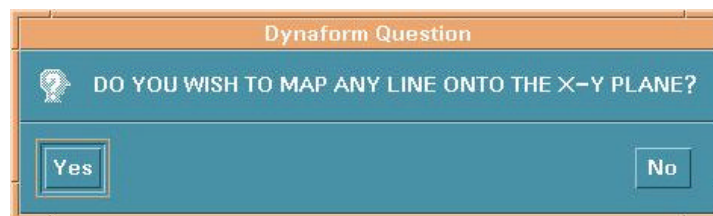

Figure 11.5.2 Map Question
- Another DYNAFORM Question appears, see Figure 11.5.2.